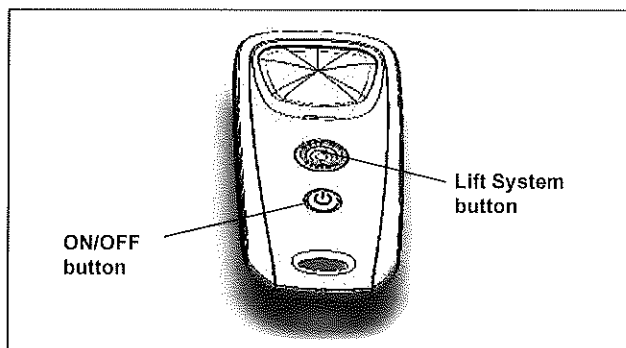

Figure 20. 9550 Sport/P955 Remote Control
Press  (see Figure 20) and hold for 3 seconds.
- To remove the cleaner from the pool using the remote control, press  (see Figure 20).